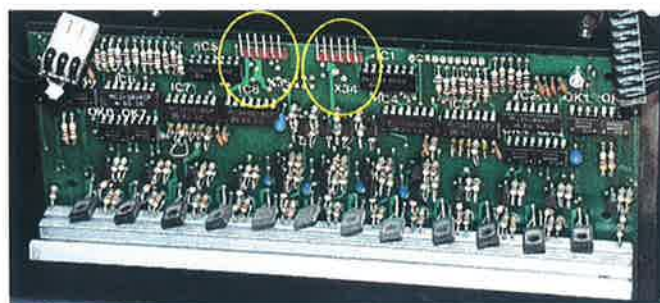

Fig 4 Connectors X34 & X35 before bending
- 12) Place the processor pcb aside. Fig 4 shows the result.
- 13) Refer to Fig 4. Identify connectors X34 and X35.